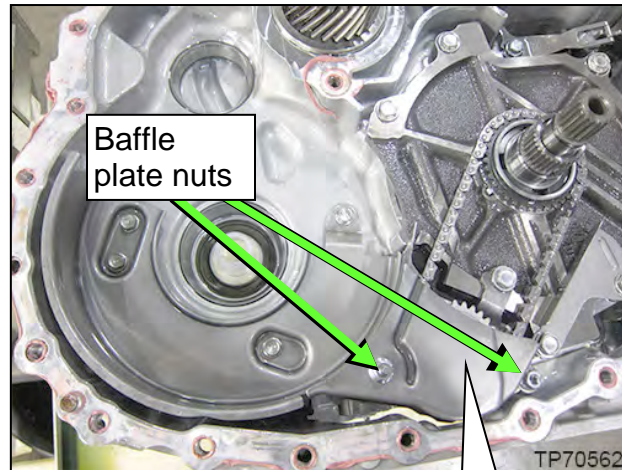

Figure 42
23. Remove the two (2) nuts from baffle plate A, and then remove baffle plate A (Figure 42).